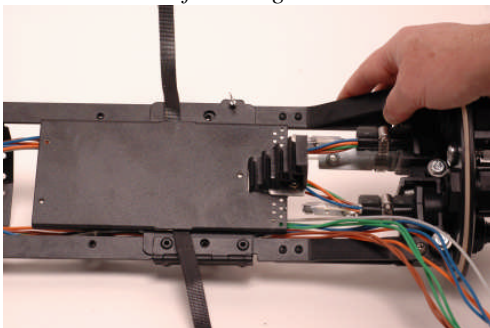

Figure 23
9.1.4 Close the hinged plate and secure using the quarter turn latch. Refer to Figure 23